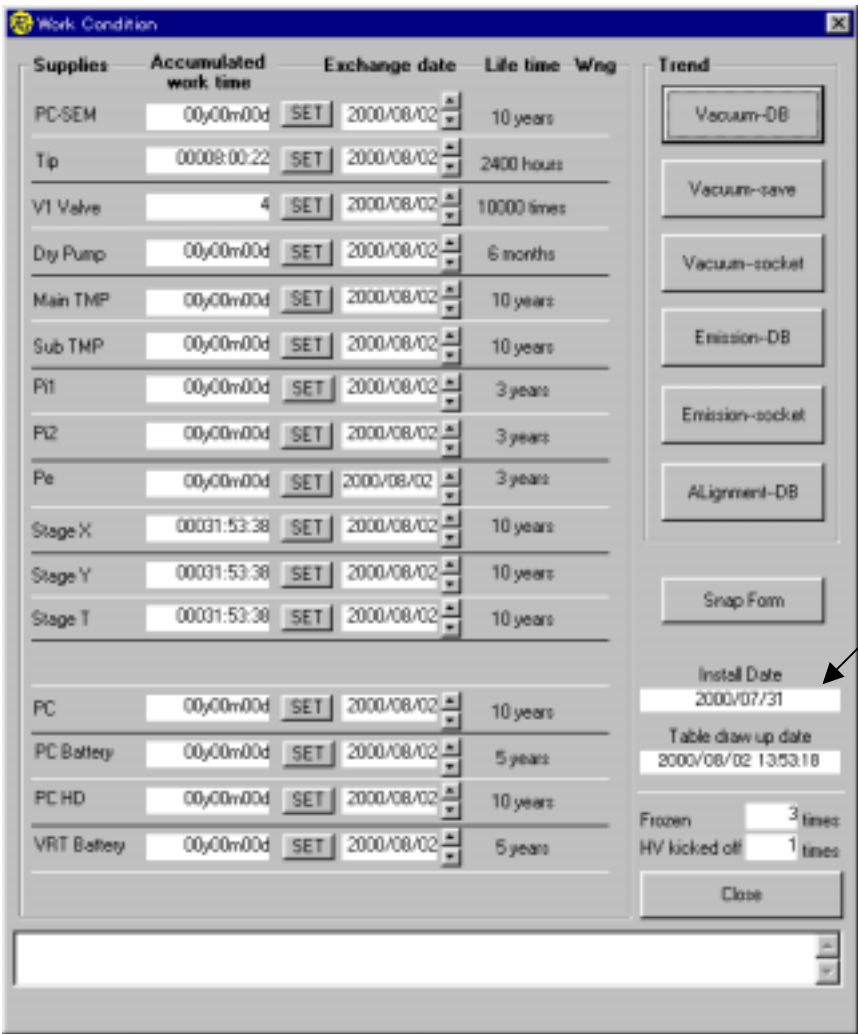

Figure 8-25: After an Installation Date is Set
When a date is correctly entered and the [OK] button is pressed, the screen of **Figure 8-25** appears. Once a date is set, the [Set Install Date] button disappears from view. A date entered through this button is stored in a setup file (Ras.ini: ★3 ②) For any subsequent change of this date, you need to directly modify the file. If blank or an invalid date is entered, a message will appear. Pressing the [Close] button causes this screen to disappear.